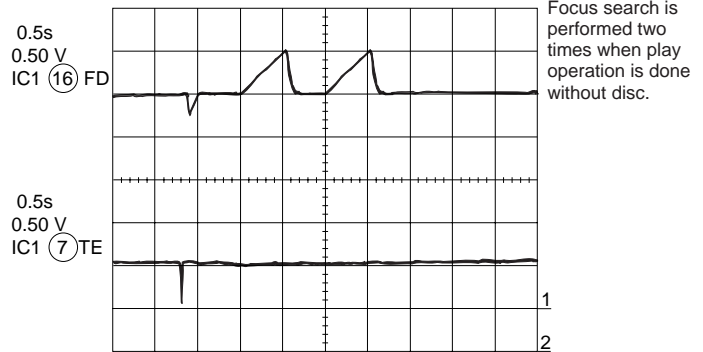

Figure 44
Does the output waveform of IC1(16)(FD) match that shown in Fig. 44?